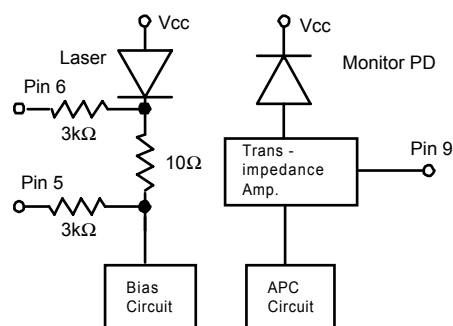
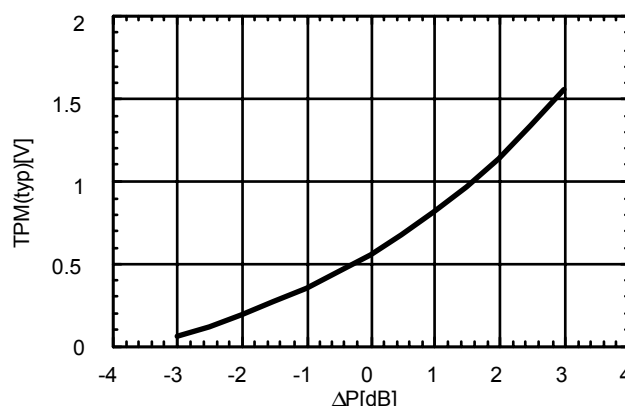

Figure 3. Monitor Pin
Figure 4. Output Power Change versus the Optical Output Monitor Voltage (typ.)
7. The transmitter is enabled as default state and requires an external voltage only to disable. (Refer to Section 8. Relation between Disable Input Voltage and Optical Output Power) 8. The Laser Bias Monitor Current is calculated a ratio of the corresponding voltages to their current-sensing resistor, 10Ω (See Figure 3). Upon Measuring or utilizing these values, please use a device whose Impedance is high enough (>1MΩ) compared with those resistors. 9. The relationship between the Output Power Change and the Transmitter Optical Power Monitor Voltage is shown in Figure 4.